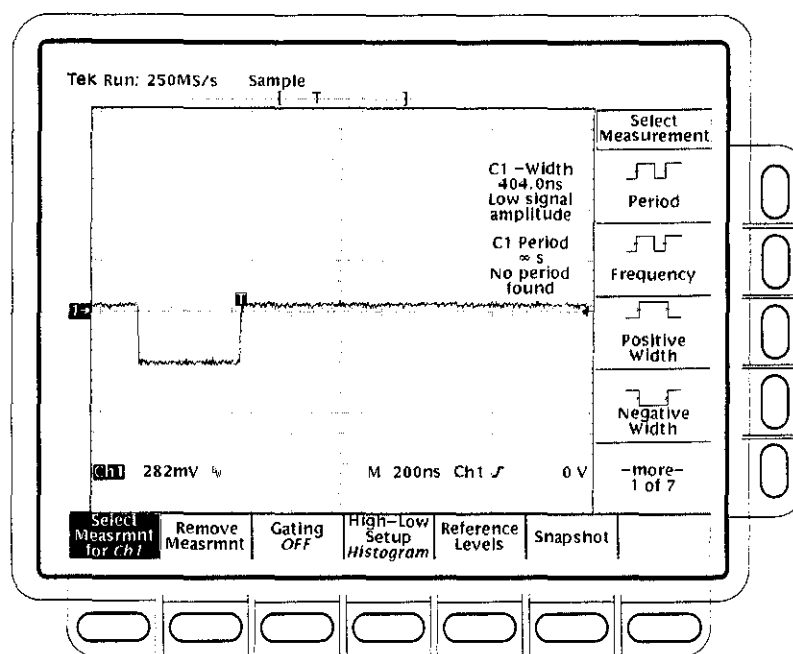

Figure 1-38: Sync Duty Cycle Test: One-Div Neg Pulse Waveform
- Turn the pulse generator **OUTPUT (VOLTS)** control until the signal on the oscilloscope shows a one division negative going pulse. See Figure 1-38.